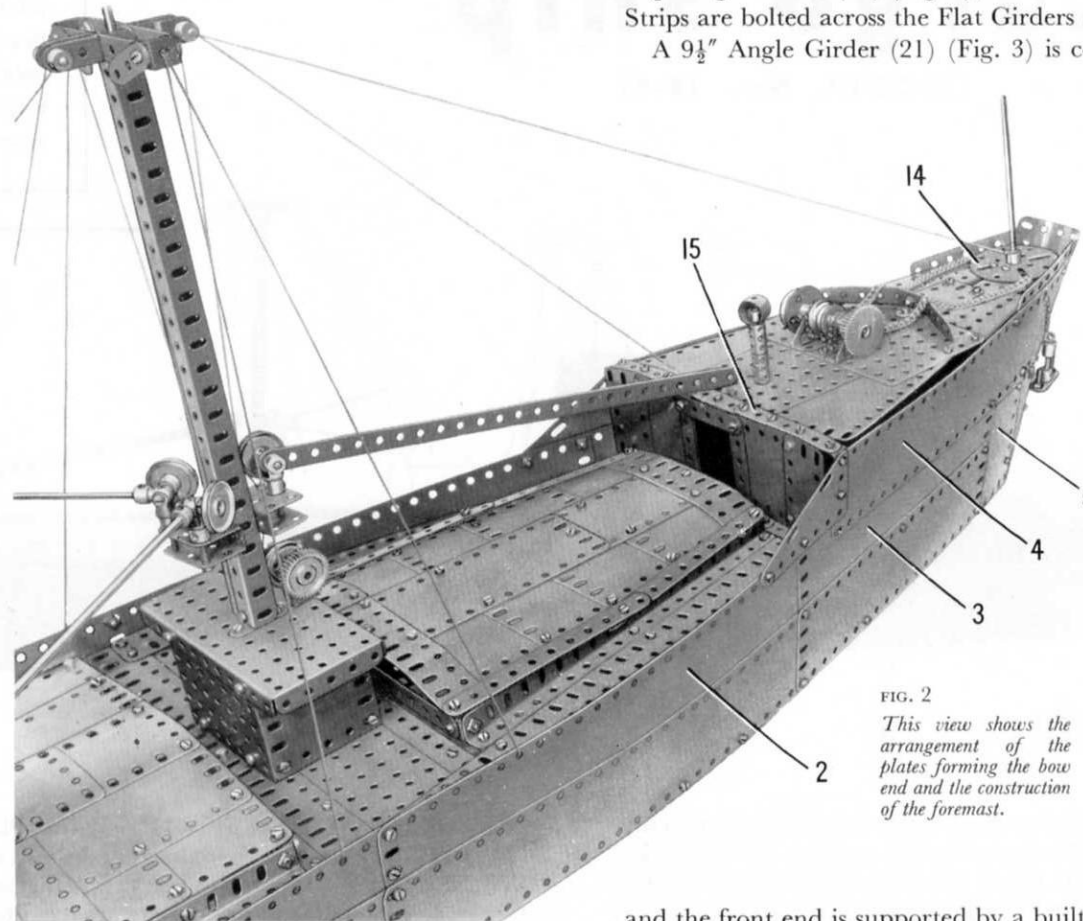
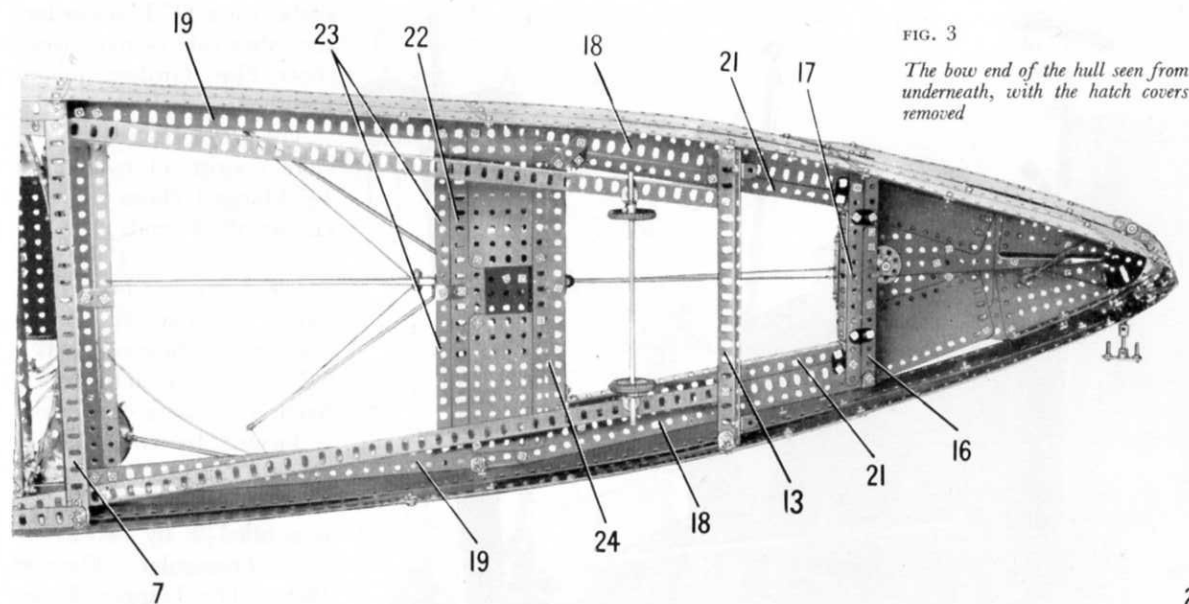

FIG. 2
FIG. 3
The foredeck consists of a Face Plate (14) (Fig. 2) at the bows bolted to two Flanged Sector Plates. Behind the Flanged Sector Plates are two  $5\frac{1}{2}$ "  $\times$   $3\frac{1}{2}$ " Flat Plates, with a  $5\frac{1}{2}$ "  $\times$   $2\frac{1}{2}$ " Flexible Plate on each side arranged at an angle. The aft ends of these Plates are supported by a made-up strip (15), consisting of a  $5\frac{1}{2}$ " and a  $3\frac{1}{2}$ " Strip, which is attached to the top lugs of  $2\frac{1}{2}$ "  $\times$   $\frac{1}{2}$ " Double Angle Strips bolted to the sides. The lower lugs of these Double Angle Strips support a strip (16) (Fig. 3) made from a  $5\frac{1}{2}$ " and a  $2\frac{1}{2}$ " Strip. A  $2\frac{1}{2}$ "  $\times$   $2\frac{1}{2}$ " and a  $2\frac{1}{2}$ "  $\times$   $1\frac{1}{2}$ " Flexible Plate on each side are bolted together and are connected vertically to the strips (15) and (16) by Angle Brackets. They are bolted also to  $2\frac{1}{2}$ "  $\times$   $\frac{1}{2}$ " Double Angle Strips fixed between these strips.
A  $9\frac{1}{2}$ " Angle Girder (21) (Fig. 3) is connected to each Flat Girder (18) by three Fishplates, and  $3\frac{1}{2}$ "  $\times$   $\frac{1}{2}$ " Double Angle Strips are bolted between these Flat Girders and the Angle Girder (13).
A  $9\frac{1}{2}$ " Flat Girder (22), extended by a  $2\frac{1}{2}$ " Flat Girder, is fixed to the Flat Girders (19), and two  $5\frac{1}{2}$ " Strips (23) joined together are also attached to the Flat Girders (19). A  $9\frac{1}{2}$ " Flat Girder (24) is connected to the Flat Girders (18) by a  $1\frac{1}{2}$ " Strip at each end. Two  $4\frac{1}{2}$ "  $\times$   $2\frac{1}{2}$ " Flat Plates are placed between the Flat Girders (22) and (24) as shown in Fig. 3.
The model is completed by adding wheels as shown in Figs. 3 and 4, and by arranging Cord to represent the rigging and the derrick ropes.